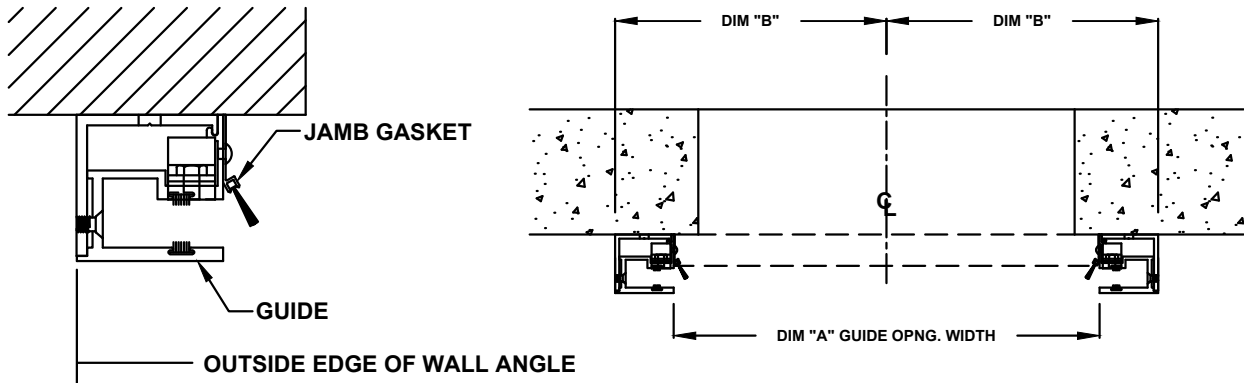

FIGURE A5
- 1) LOCATE CENTER OF OPENING, MARK OFF DISTANCE FROM CENTER OF OPENING TO OUTSIDE EDGE OF EACH WALL ANGLE AS SHOWN IN FIG. A5.
When looking at a completely assembled door from the direction as shown in Fig. A5.....